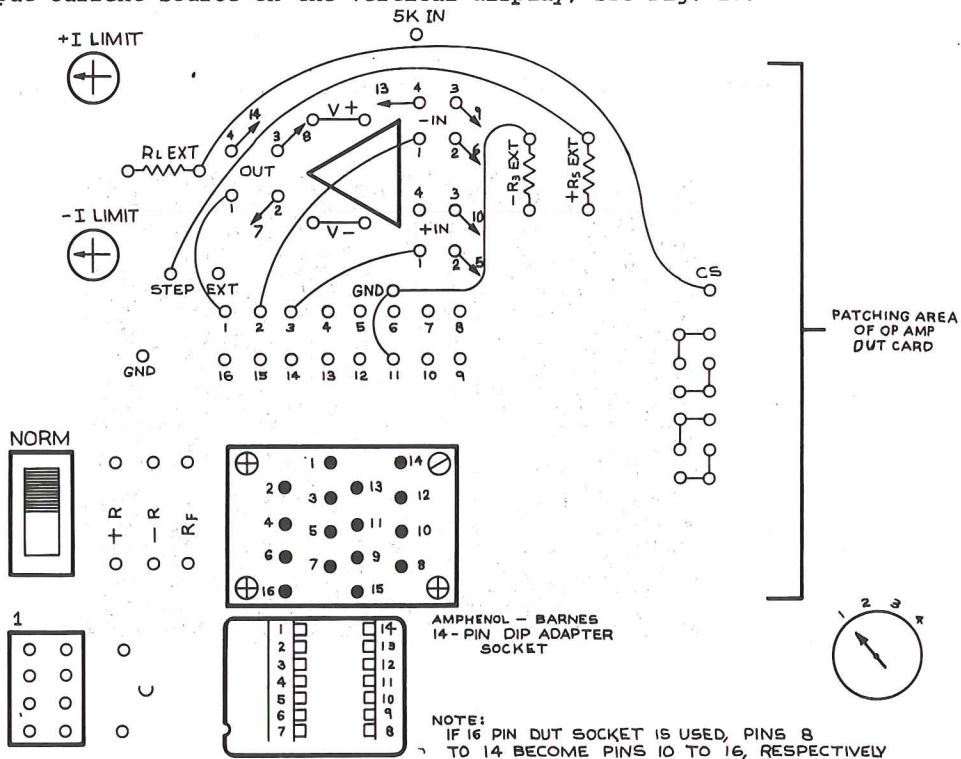

Figure 16. Test setup for measuring current source.
- Connect top of  $-R_g$  EXT to GND. Connect top of  $+R_g$  EXT to STEP, as shown in Fig. 16.